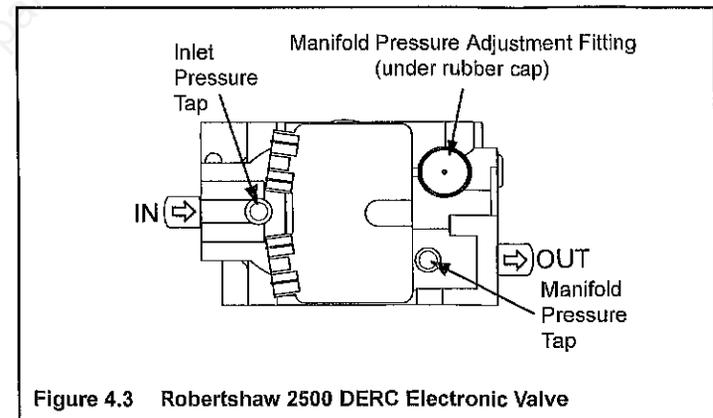

Figure 4.3 Robertshaw 2500 DERC Electronic Valve
- Using a 9/16 wrench, unscrew the manifold pressure adjustment fitting. See Figure 4.3.